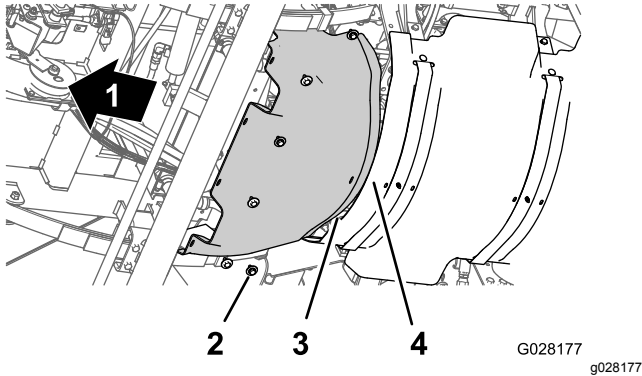

Figure 42
1. Align the rear flange of the forward heat shield over the forward flange of the rear heat shield (Figure 42).
2. Align the holes in the forward heat shield with the threaded holes in the chassis (Figure 42).
3. Assemble the forward heat shield to the machine with the 6 hex-head bolts and 6 washers (Figure 42) that you removed in step 4 of Removing the Forward Heat Shield (page 39).